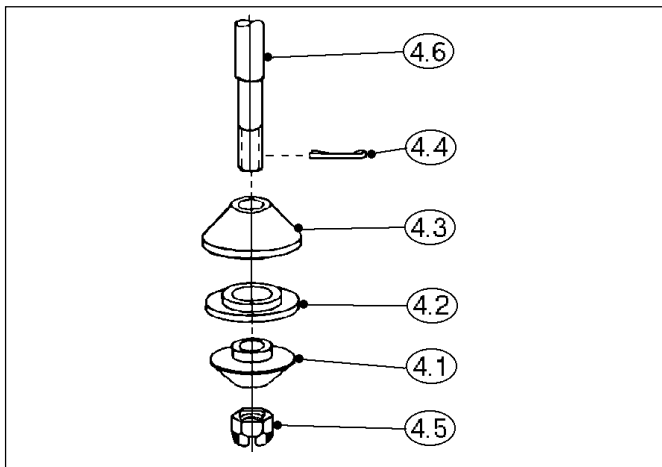

Figure 3
10. While holding the stem (4) assembly with your fingers to keep it from dropping, reorient the bonnet (2) within the vise to allow the stem (4) to be withdrawn out the bottom of the bonnet (2).
11. Using a pick-end tool, pull out each packing ring (10) from within the bonnet's (2) packing box; discard each packing ring (10). **NOTE:** *Six packing rings per packing set (10) for sizes 1/2" – 1" (DN15-25); five packing rings for sizes 1-1/2" and 2" (DN40 and 50).*
12. Rotate packing stud nuts (21) over end of packing studs (20) to prevent impact damage.
13. Remove bonnet (2) with guide bushing (12) still in packing box from vise. Turn bonnet (2) upside down and allow guide bushing (12) to slide out. **NOTE:** *Guide bushing (12) is not "pressed" into its location. If stuck in place, use a tool on the guide bushing's (12) bottom end to push the guide bushing (12) out.*
15. Using a micrometer, measure the stem (4, 4.6) OD and the guide bushing (12) ID in the portions exposed to wear. Replace all parts showing wear or axial scratches/grooves on the stem (4, 4.6). It is recommended that the guide bushing (12) also be replaced if the stem (4, 4.6) shows scratches/grooves.
- a. Examine plug head (4) at location where plug (4) seats to seat ring (3). Closely examine these parts (3, 4) for any wire-drawing. Replace both plug-stem (4) and seat ring (3) whenever one or the other shows any signs of wear.
- b. Using a suitable seat lapping compound, hand-lap the plug (4) to the seat (3).
- c. If significant plug (4) or seat ring (3) wear is present, replace trim.
17. **Composition (Soft) Seated Trim (See Fig. 3):**
- d. Slide both adapters (4.1, 4.3) with soft seat (4.2) off nut-end of stem (4.6). Discard soft seat (4.2). Examine adapters (4.1, 4.3) and seat ring (3) for wear; replace all significantly worn parts. Clean adapters (4.1, 4.3) to be reused.